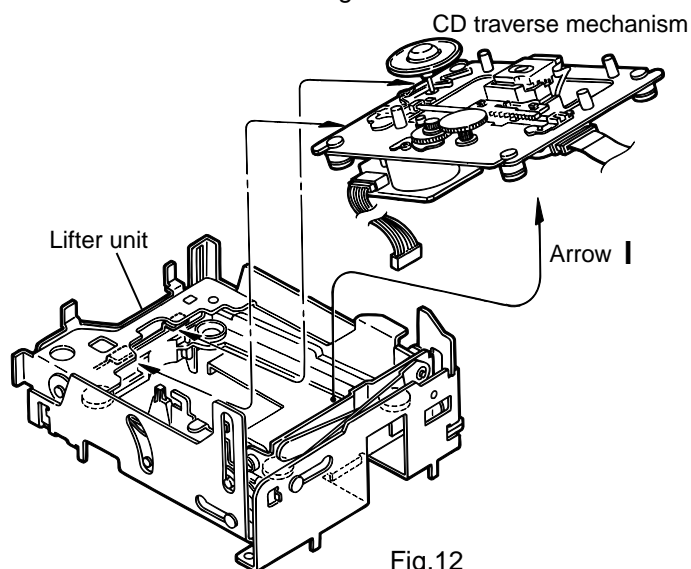

Fig.12
2. By raising the CD loading mechanism assembly in the arrow direction "l", remove the assembly from the lifter unit (See Fig.12).